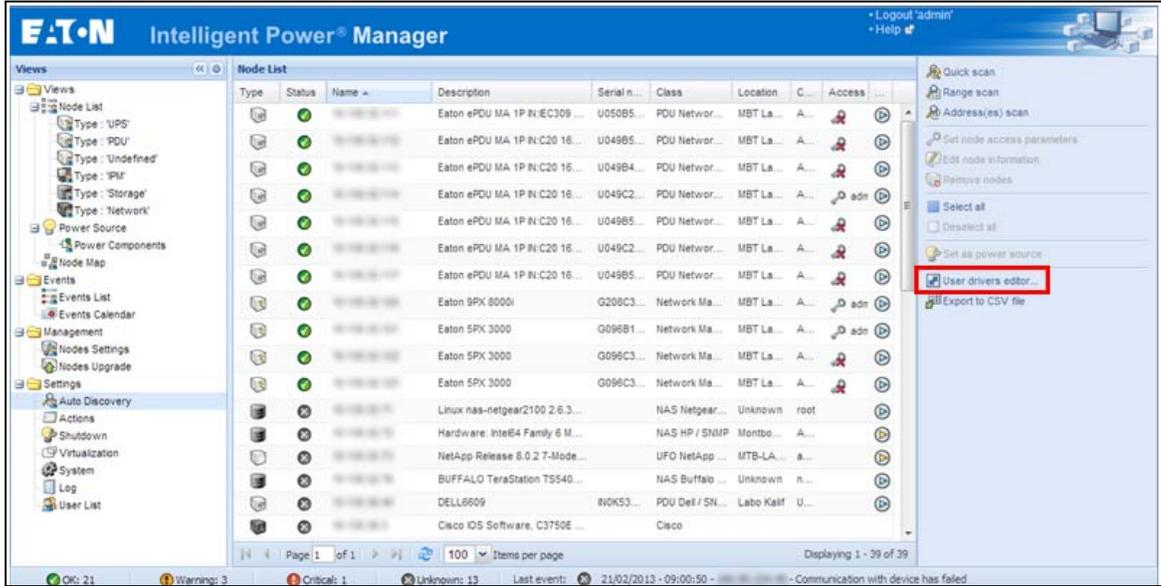

Figure 126. User Drivers Editor Selection
2. Select the  User drivers editor... button from the right panel (see Figure 126).